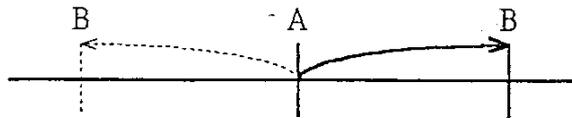

FIG.1
1. AT FIRST, MAKE THE S2 SELECT SWITCH AT SURFACE GRINDING MODE (S2-1), THEN CHOICE S1 SELECT SWITCH ON THE MANU OPERAT MODE (M). AFTER THAT, OPERATION THE PB11 OR PB12 PUSH BUTTON SWITCH (FOR RAPID FORWARD OR BACKWARD); TO SENT THE SPINDLE SEAT TO THE FISRT GRINDING EDGE OF WORKPIECE "A" (PLE. REFER FIG.1).